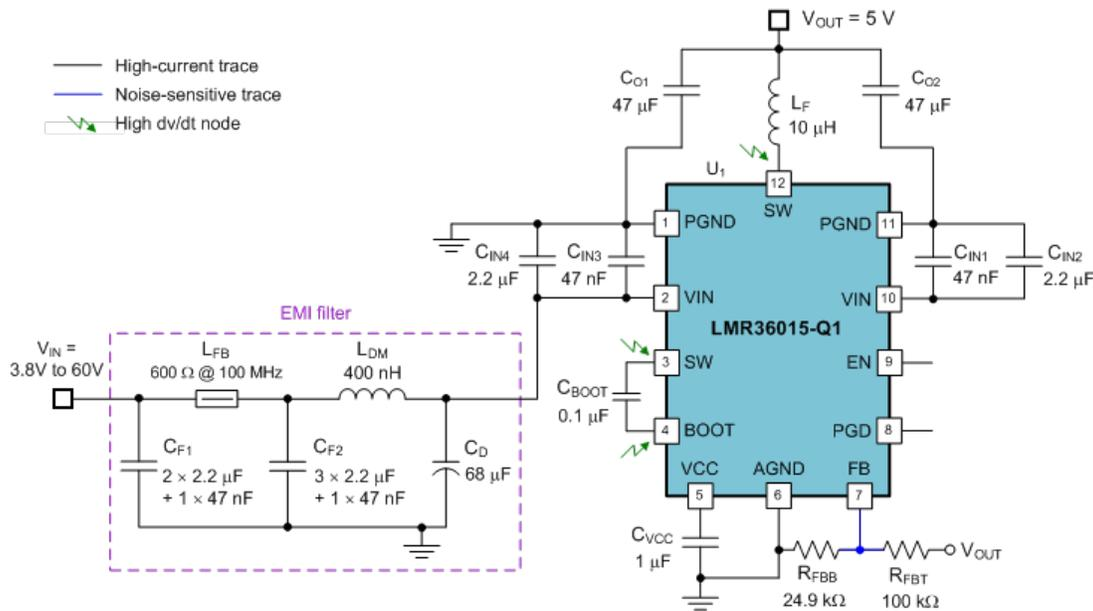
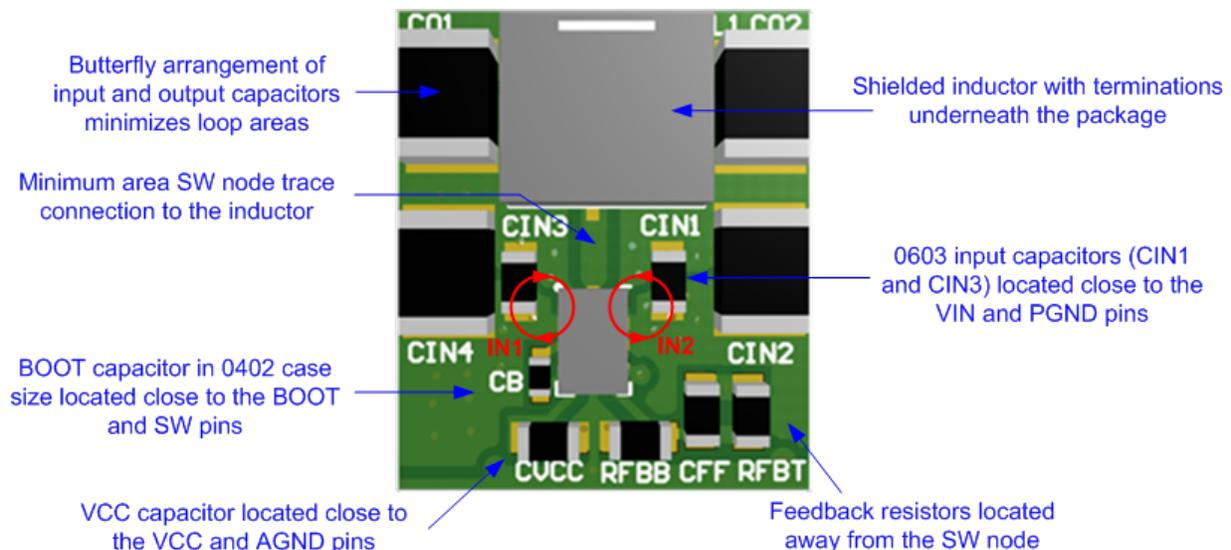

Figure 2. DC/DC Converter with EMI-optimized Package and Pinout. Included Is a Two-stage EMI Input Filter
Figure 3. Power Stage Layout Routed Only on the Top Layer of the PCB
Figure 2 provides the schematic of a 60-V synchronous buck converter with both pinout and package optimized for EMI performance when operating in high-performance automotive applications such as body electronics and ADAS. The schematic highlights the high-current traces (V_{IN} , PGND, SW connections), noise-sensitive nets (FB) and high dv/dt circuit nodes (SW, BOOT).
The converter IC in Figure 2 has the benefit of a symmetrical and balanced pin arrangement for VIN and PGND. It uses two input loops in parallel that result in effectively half the parasitic loop inductance. These loops are labeled IN1 and IN2 in the PCB layout diagram shown in Figure 3. Two capacitors with small 0402 or 0603 case size, designated as C_{IN1} and C_{IN3}, are placed as close as possible to the IC to configure minimum input loop areas. The circulating currents create opposing magnetic moments that result in H-field cancellation and hence lower effective inductance. To further reduce parasitic inductance, a continuous ground plane for return current underneath the IN1 and IN2 loops on layer 2 of the PCB – immediately below the top layer power circuit – supports a field self-cancellation effect.
Figure 5 shows the conducted emissions measured from 150kHz to 108MHz for the circuit in Figure 3. The results are in compliance with EN 55025 Class 5 requirements for automotive, even without a CM choke, snubbers or metal case shielding.